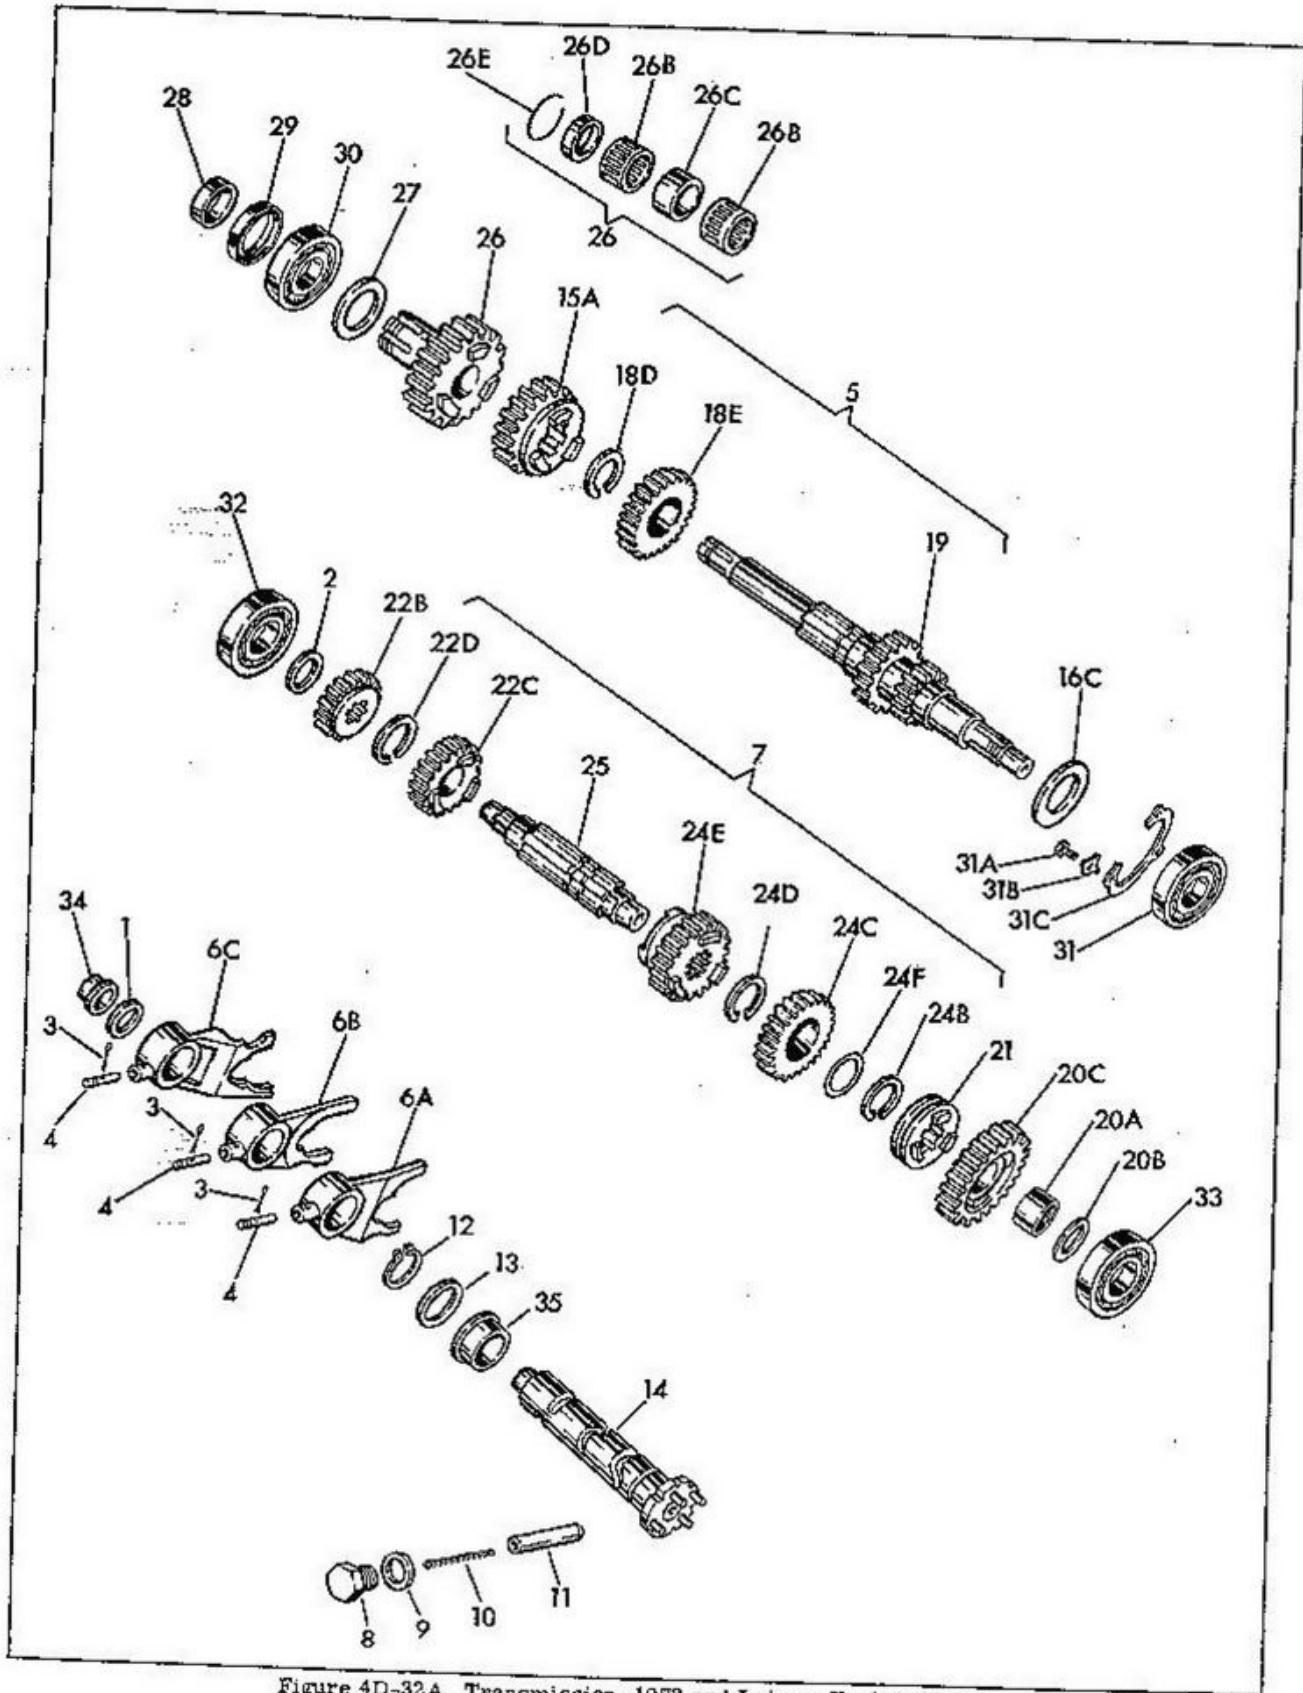

Figure 4D-32A. Transmission, 1973 and Later - Exploded View
Remove shifter clutch (15) and low gear shim (16C), (if used). Press off first (low) gear (16 or 16A) as shown in Figure 4D-34.
On 1968 and earlier models, press off second (17) and third (18) gears as shown in Figure 4D-35.
On 1969 to 1972 models, press off second gear (17) alone by inserting pins or screws through third gear (18) slots and using a sleeve to press gear away from third gear lock ring (18B). (See Figure 4D-35A.)